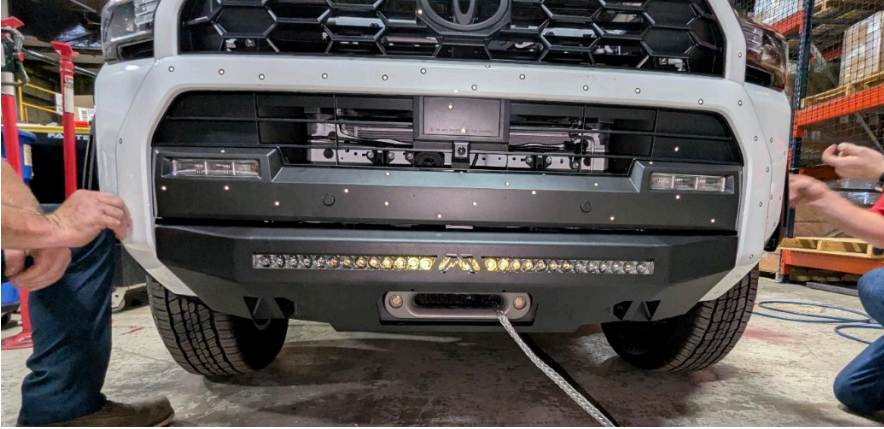

Figure 43
30. Loosely set the fascia back into place on the vehicle and check the placement of the winch mount. Adjust as desired then remove the fascia. (Figure 43)